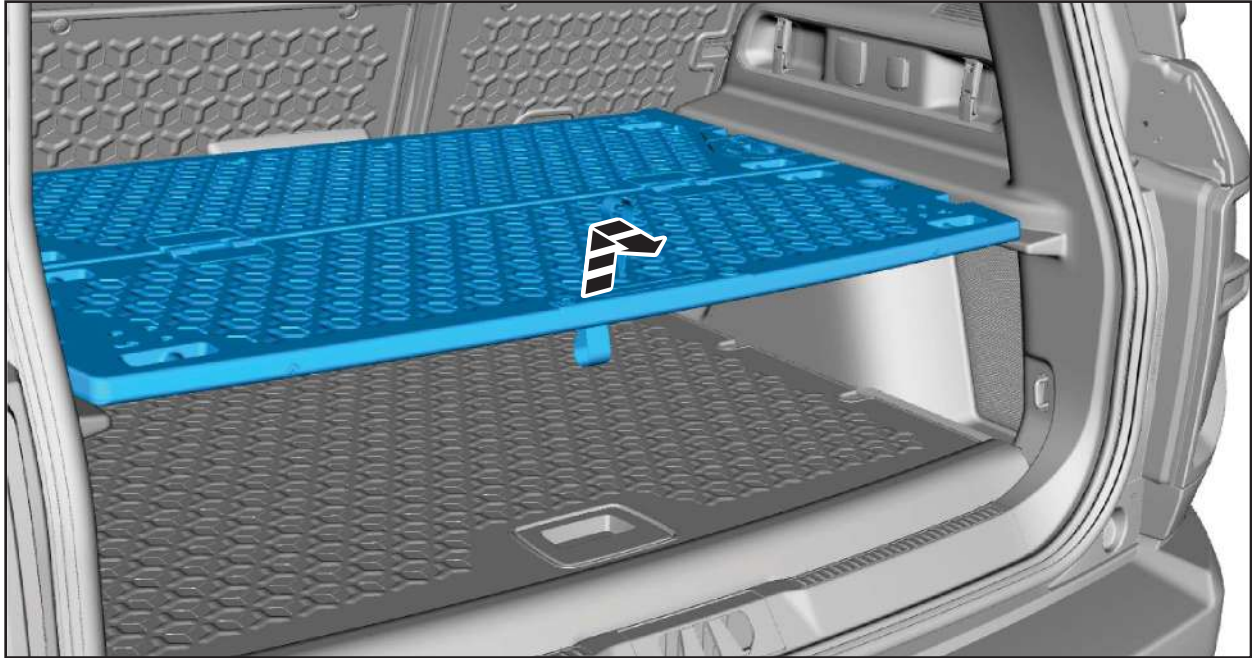

FIGURE 15
15. If equipped, remove the luggage compartment package cover. See Figure 15.